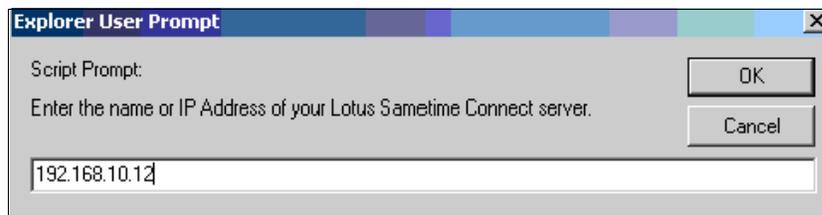

Figure 7-3 Installing Sametime integration
6. Type the IP address of your Lotus Sametime Connect server (Figure 7-3).